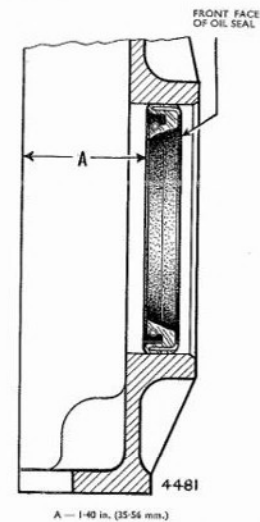

Fig. B.93. Correct location of the oil seal in the timing cover
- Inspect the oil seal in the timing cover and should it be damaged, or inefficient in operation, remove by pressing the seal from its bore, in either an inward or outward direction. Press in the new oil seal with its sealing lip pointing inwards towards the cylinder block side, until the inner face of the seal is 1.40 in. (35.56 mm.) from the inner joint face of the timing cover, as shown in Fig. B.93. It should be noted that the spigot on the timing case centraliser, Churchill Tool